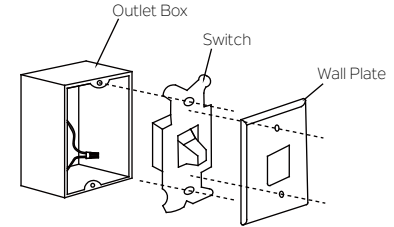

Fig. 26
Step 1. Remove the existing wall plate and the old switch from the wall outlet box. Wire nut the BLACK leads (hot) together and push back inside the outlet box. (Fig. 26) Or Select the desired location with a new wall outlet box.